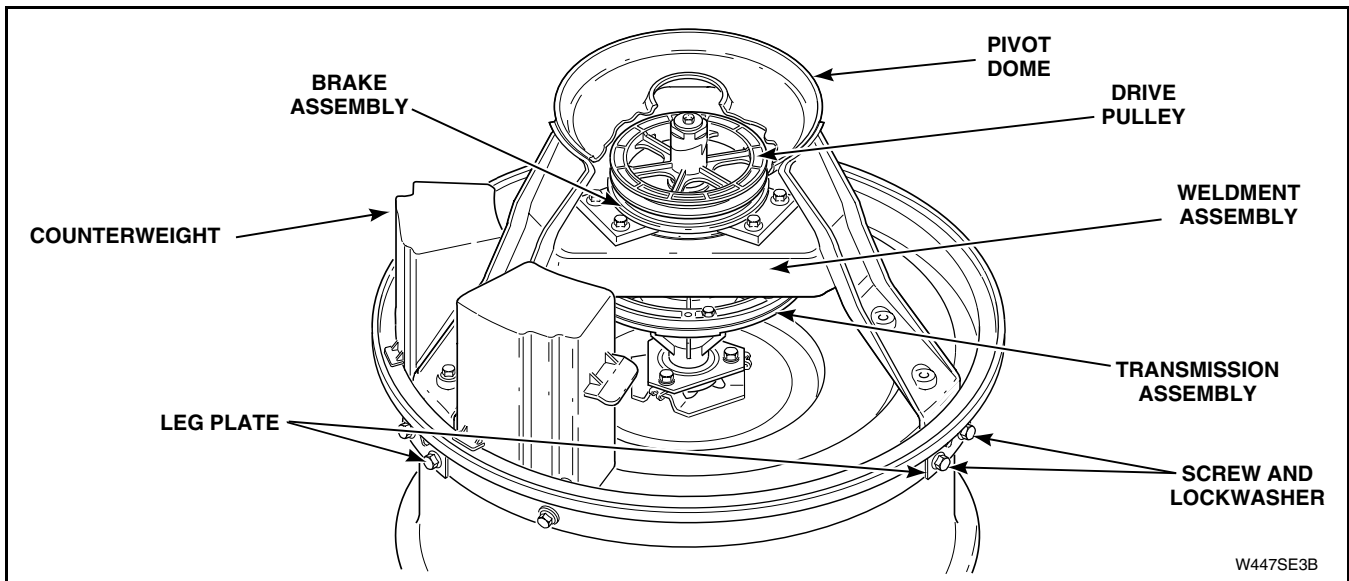

Figure 54
- x. Remove screws and lockwashers holding counterweight and each support leg to outer tub. Refer to *Figure 54*. Then lift transmission, weldment assembly and counterweight off tub.